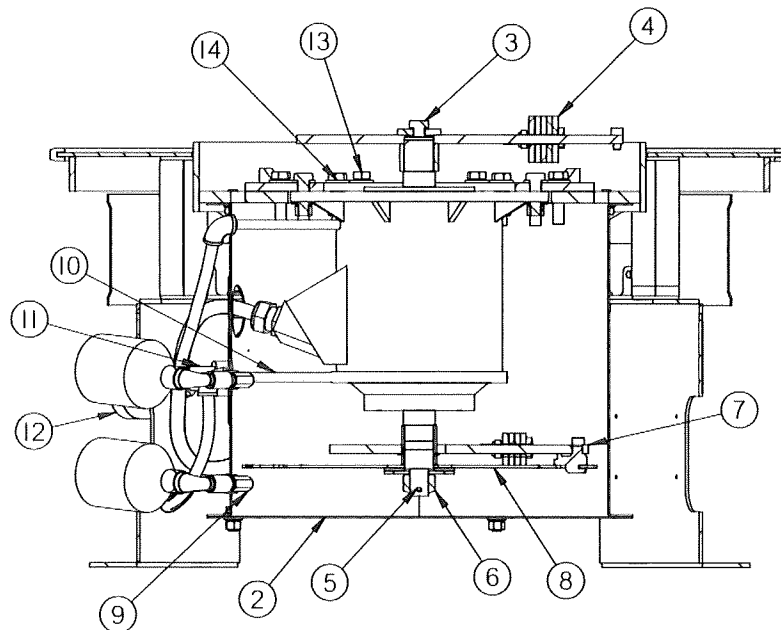

Figure 27 HX Separator Cross-Section, Frames and Table Frame Removed
5. Thread a M12-1.75 shouldered lifting bolt where the upper motor weight bolt (Refer to Figure 27, Item 3) threads to the motor.
14. Reconnect the electrical cord grip to the junction box (Refer to Figure 27, Item 12) mounted to the base weldment.
15. Reinstall lower motor weight (Refer to Figure 27, Item 7) and lead angle assemblies (Refer to Figure 27, Item 8) with desired settings.
16. Reinstall upper motor weight assembly (Refer to Figure 27, Item 4) with desired setting.
17. Reinstall lower motor weight guard (Refer to Figure 27, Item 2).